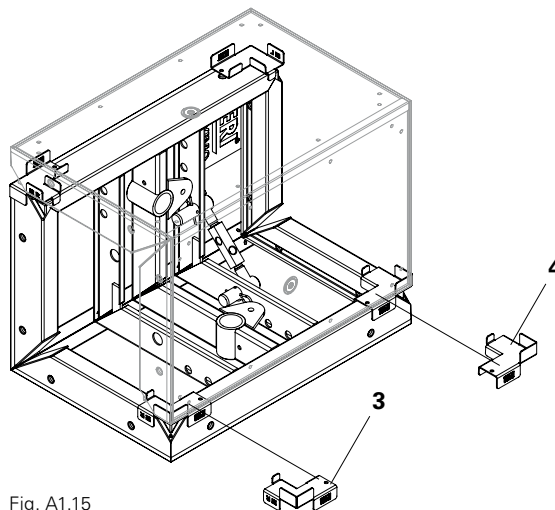

Fig. A1.15
- two shaft corners (Fig. A1.15).